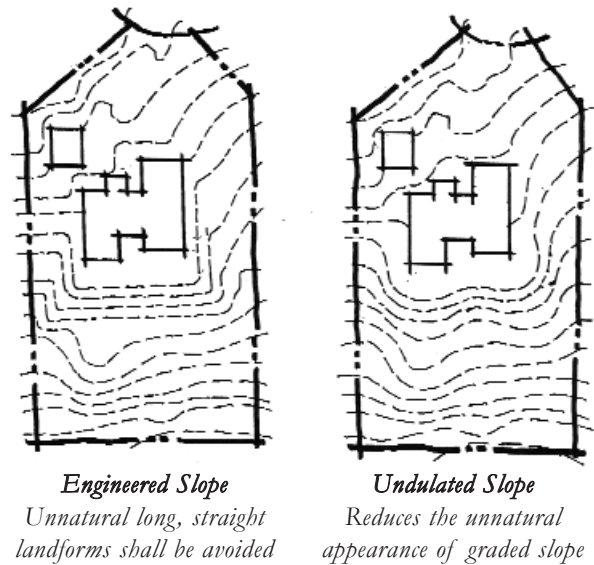

Figure 2.5
- All cuts, fills, and retaining walls must create smooth transitions at top and bottom of slopes and appear to be extensions of natural landforms. In general, finished slopes shall mimic the natural topography. Long, straight landforms shall be avoided, while rounded flowing forms are encouraged. Cut and fill slopes are to be undulated to reduce the unnatural appearance of engineered slopes, and are to vary between 3:1 and 4:1 slopes minimum. See Figure 2.5.
- Acceptable materials for retaining walls include dry stacked or facing stone over a structural wall, or stucco walls with landscape screening. See Figure 2.5 b & c - Retaining Wall Finishes.